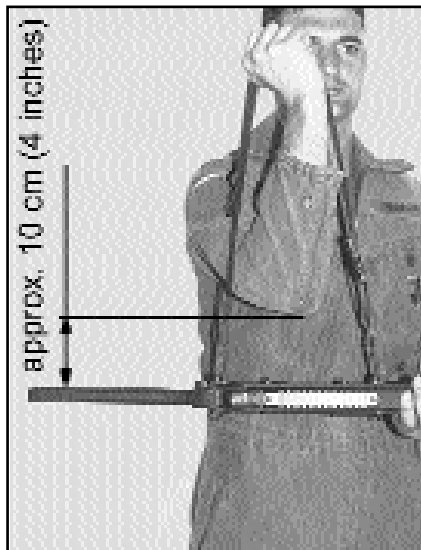

Fig. 34 Length adjustment
- Rest the carrying sling between thumb and index finger and let the UMP hang down in a horizontal position. Adjust the length in such a way that there is a space of approximately 10 cm (4 inches) between your forearm and the UMP (Fig. 34).